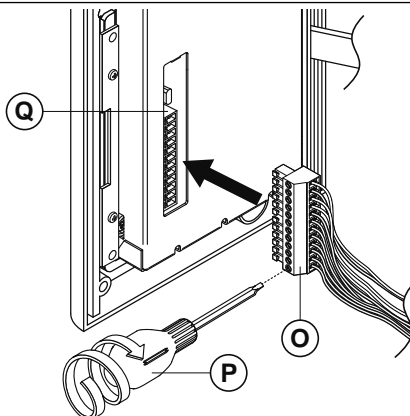

Fig. 44
8. Make the required wiring connections into the terminal block **(O)** using the screwdriver provided **(P)** (using the flat blade end) then plug the terminal block **(O)** into the module's terminal block connector **(Q)** , as shown in **Fig.44**. Make any other necessary panel adjustments required (connecting the antenna cable, fitting the SIM card and setting the dip-switches etc.);